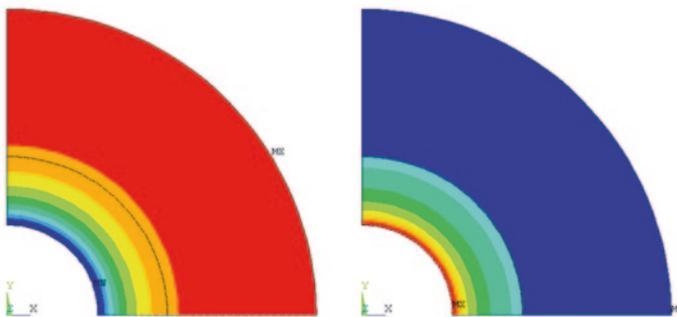

Fig. 8.22 Normal stresses in cylindrical coordinates: in r -direction, σ_{rr} (left), and in θ -direction, $\sigma_{\theta\theta}$ (right)
- The contour plot appears in the *Graphics Window*, as shown in Fig. 8.22 (left).
- Repeat the same procedure for $\sigma_{\theta\theta}$, which produces the contour plot given in Fig. 8.22 (right).